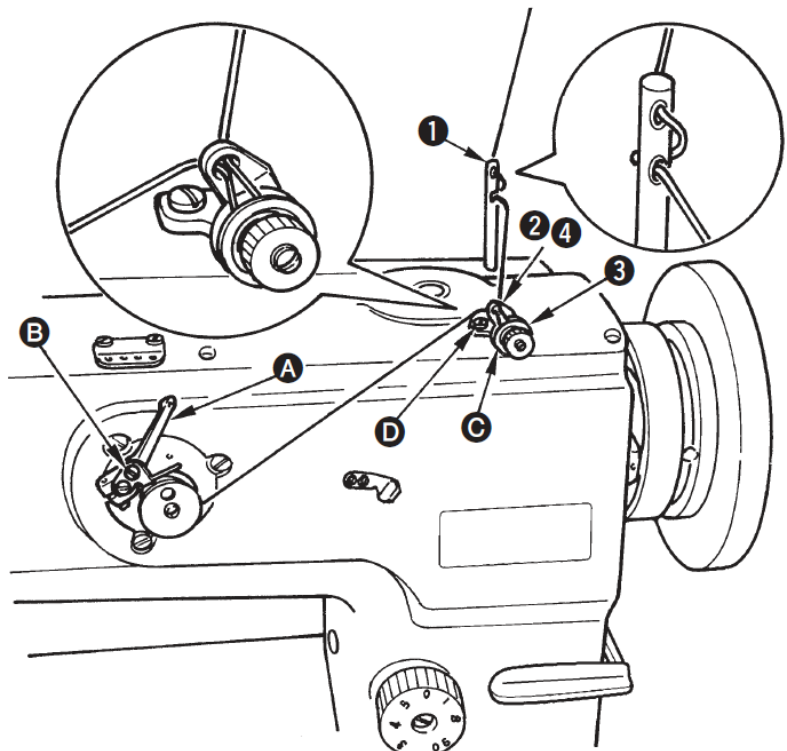

Figure 13
5. If the bobbin is wound unevenly, correct it by loosening the bobbin winder thread guide screws (Fig 13, Items D) and moving the guide back and forth to balance the thread on the bobbin.